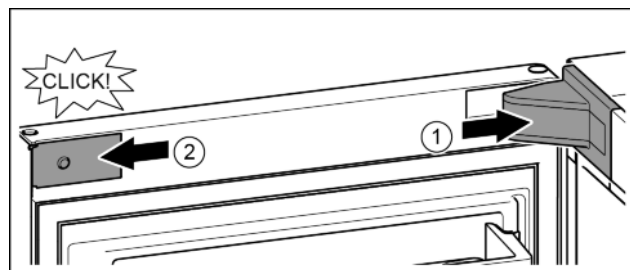

Fig. 22
- Position the bearing bracket and engage. If necessary push apart carefully. Fig. 22 (1)
- Position the panel on the side and click into place. Fig. 22 (2)